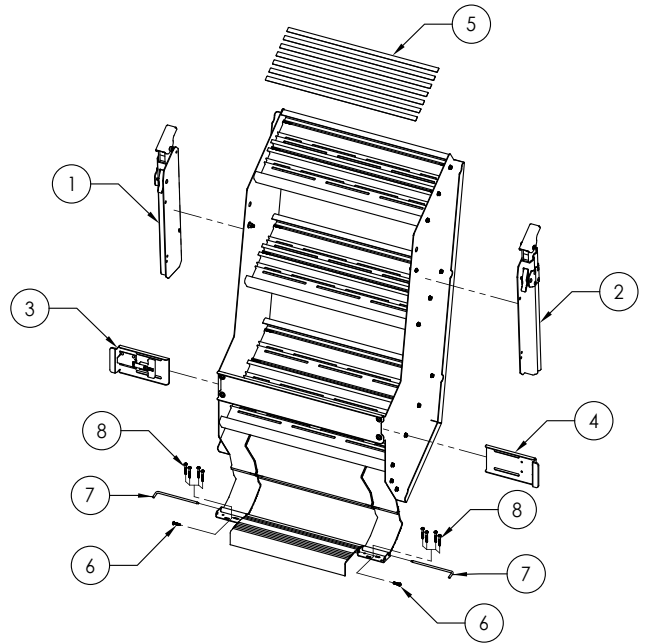
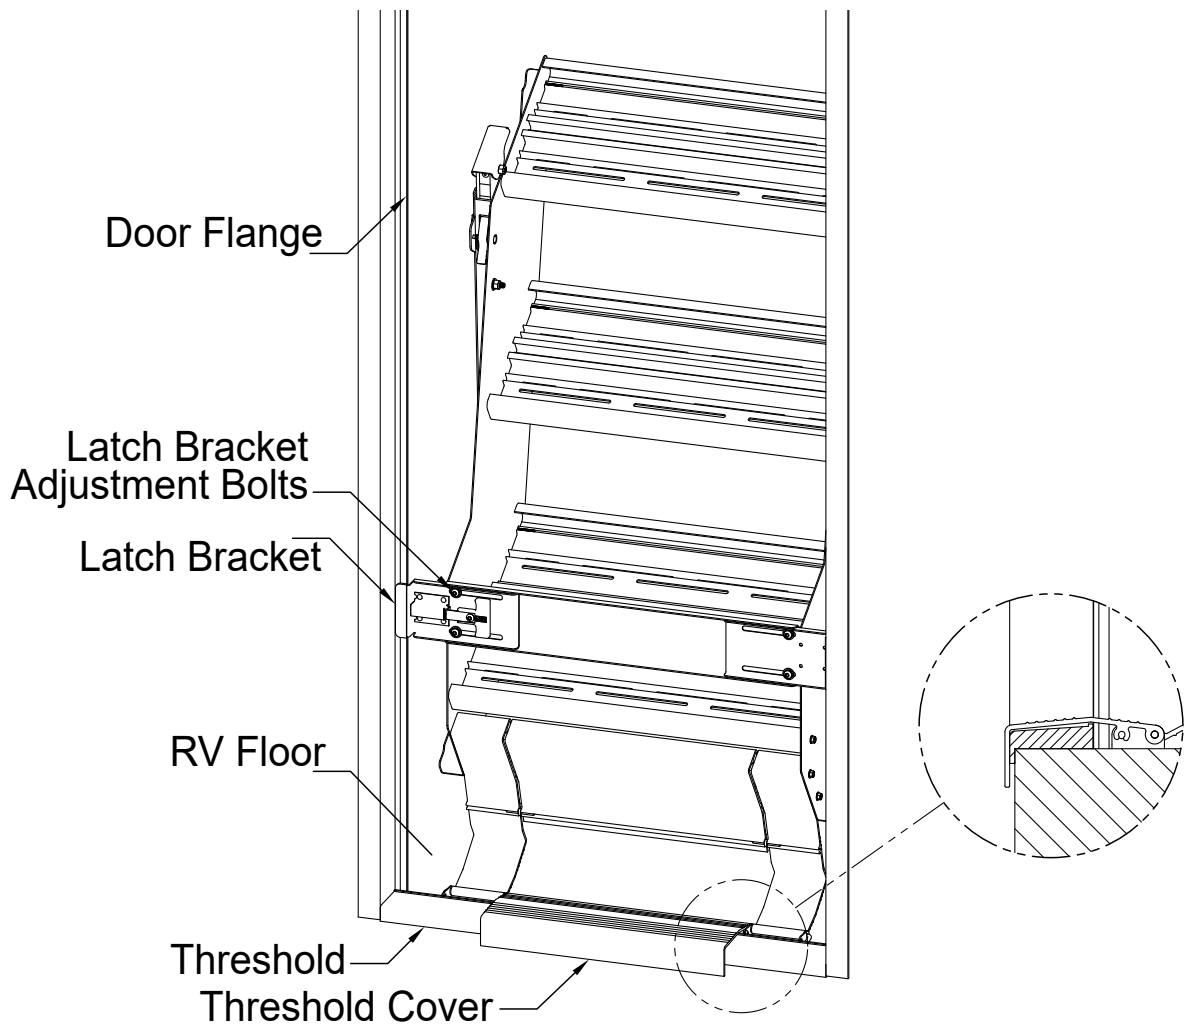

Figure 1
Figure 2
2. Open RV entry door fully and set the stair assembly in the RV threshold as shown in **Figure 1**.
5. The following steps involve installation of floor mounting screws to secure product to floor. Eight (8) #8x3/4 pan head or truss head screws must be used. Ensure screw head diameter of 5/16" or larger is used. Washers may also be used.
6. Install one (1) screw through each floor mounting brackets' slotted holes, centered as shown in **Figure 2**, (screw position A). Installation of screws into slotted holes first allows for fine adjustment of staircase within the door width. It is recommended to drill a pilot hole using a 1/8" drill bit for all floor screws.
7. Ensure stairs are centered within doorway before installing remaining screws in the floor mounting bracket. Once satisfied with position, install remaining screws in the floor mounting bracket as shown in **Figure 2**, (screw position B). Do not overtighten screws.
Adjust brackets by loosening bolts shown in **Figure 1**, sliding brackets in or out as needed and retightening bolts. The ideal adjustment is achieved when maximum surface area of each stop bracket bears on the door flanges and the slide latch actuates properly to prevent the staircase from unintentionally pulling free from the door flange.